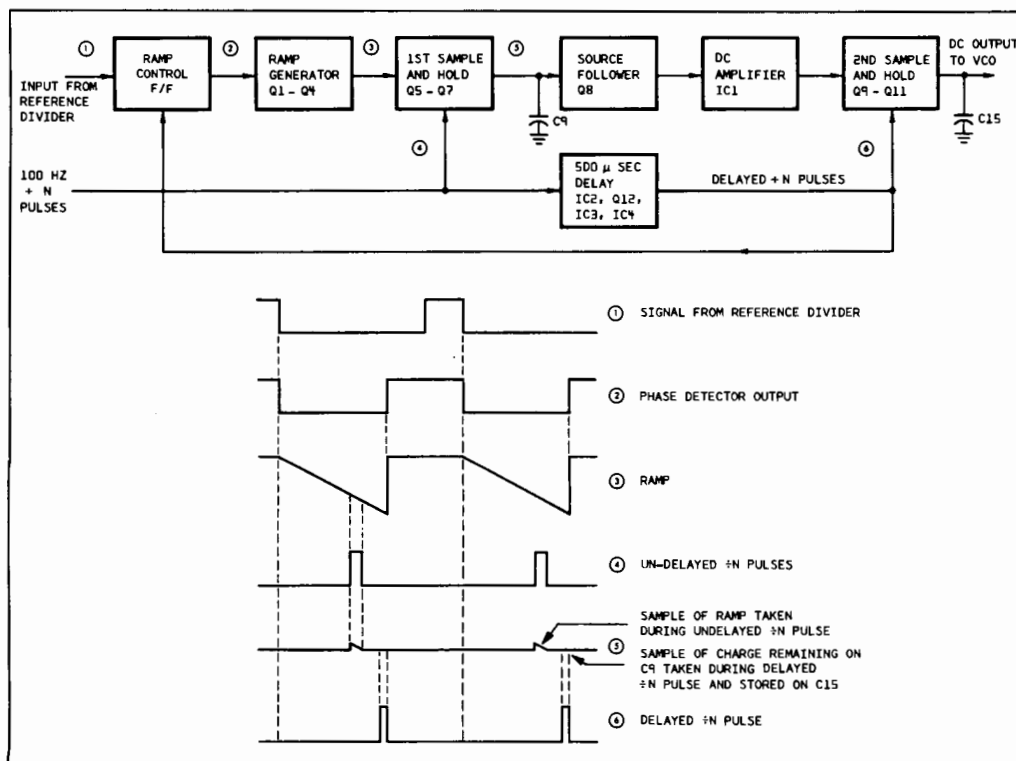

Figure 4-3. Sample and Hold Circuits, Simplified Block Diagram
The Sample and Hold circuits develop a DC control voltage for the Varicap in the VCO circuit that is proportional to the phase relation between the 100 Hz output of the $\div N$ Counter and the 100 Hz signal that is derived from the M.O. output. Figure 4-3 is a block diagram of the sample-and-hold circuits.
4.58 The voltage on C9 is not suitable as a control voltage for the VCO Varicap because of the sampling ripple that is present, shown on the waveforms in Figure 4-3. The delayed $\div N$ pulse therefore activates a second sampling circuit so that a sample can be taken of the charge on C9 between un-delayed $\div N$ pulses.